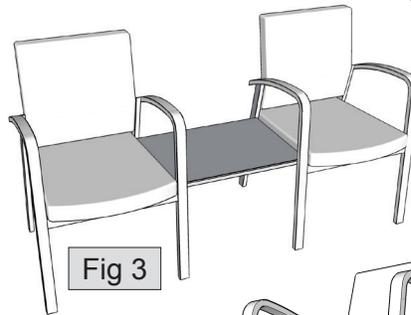

Fig 3
5. Pull the chairs together and rest the tabletop on the brackets, as shown in figure 3. Sticker on underside of tabletop faces back.